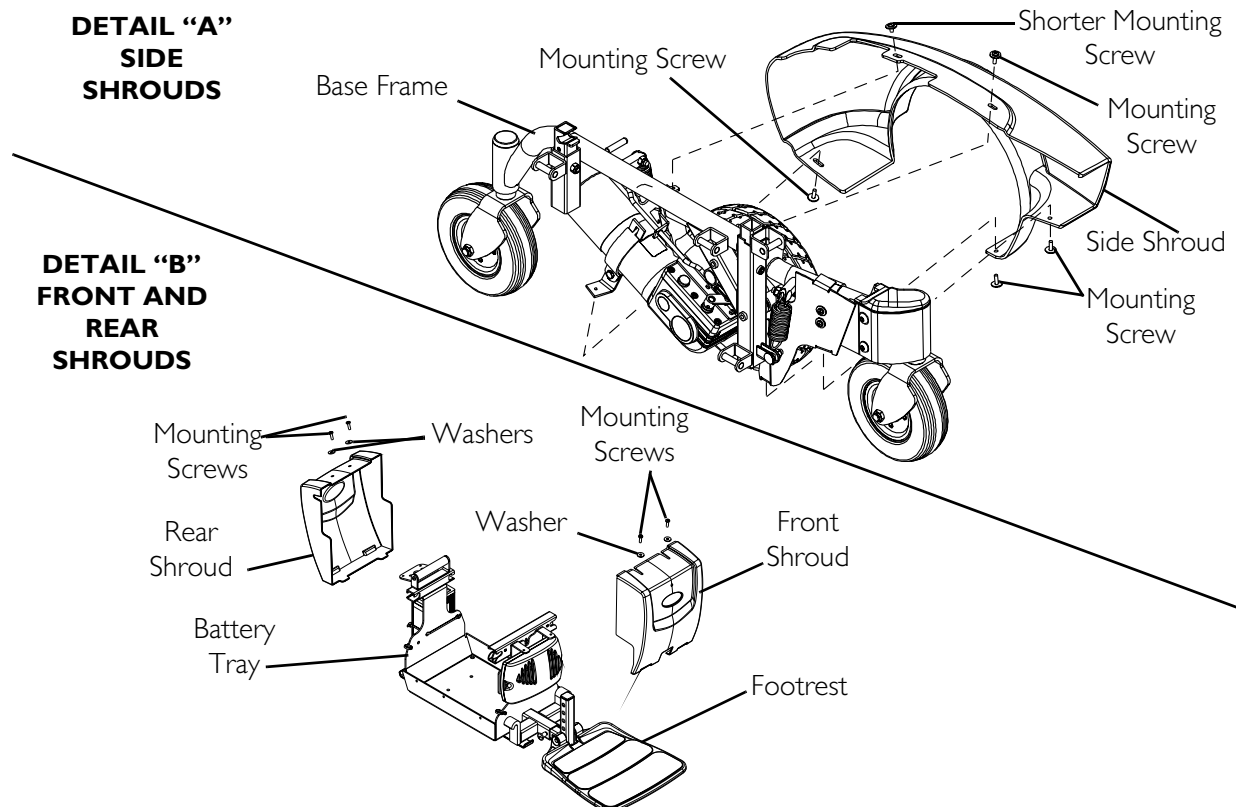

FIGURE 17.1 Removing/Installing the Shrouds
NOTE: For this procedure, refer to FIGURE 17.1.
NOTE: The shorter mounting screws are used to secure the top rear of side shrouds. Refer to DETAIL "A" in FIGURE 17.1.
- B. Front Shroud - Remove the two mounting screws that secure the front shroud to the base frame. Refer to DETAIL "B" in FIGURE 17.1.
- C. Rear Shroud - Remove the two mounting screws that secure the rear shroud to the base frame. Refer to DETAIL "B" in FIGURE 17.1.
- NOTE: The shorter mounting screws are used to secure the top rear of side shrouds. Refer to DETAIL "A" in FIGURE 17.1.*
- B. Front Shroud - Secure the front shroud to the base frame with two mounting screws. Refer to DETAIL "B" in FIGURE 17.1.
- C. Rear Shroud - Secure the rear shroud to the base frame with two mounting screws. Refer to DETAIL "B" in FIGURE 17.1.